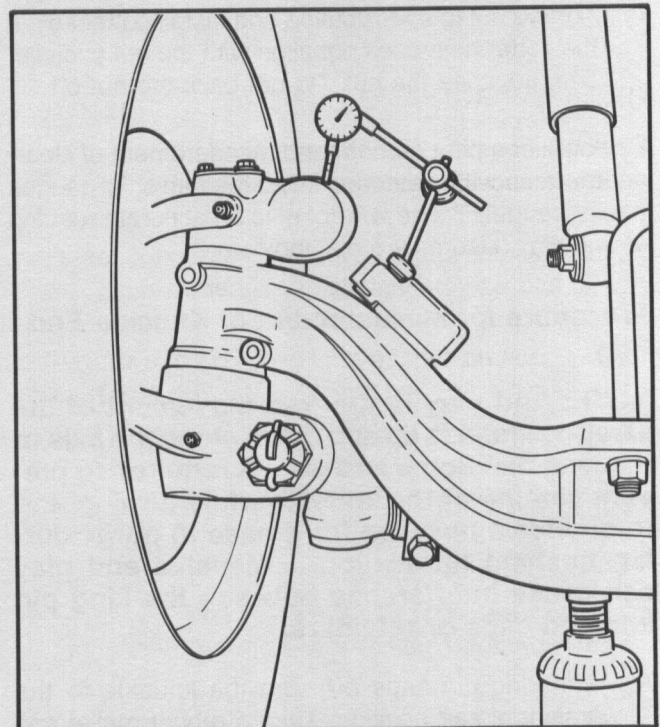

Figure 36
- C. Attach a dial indicator to the axle beam with a "C" clamp or magnetic base (Figure 36).